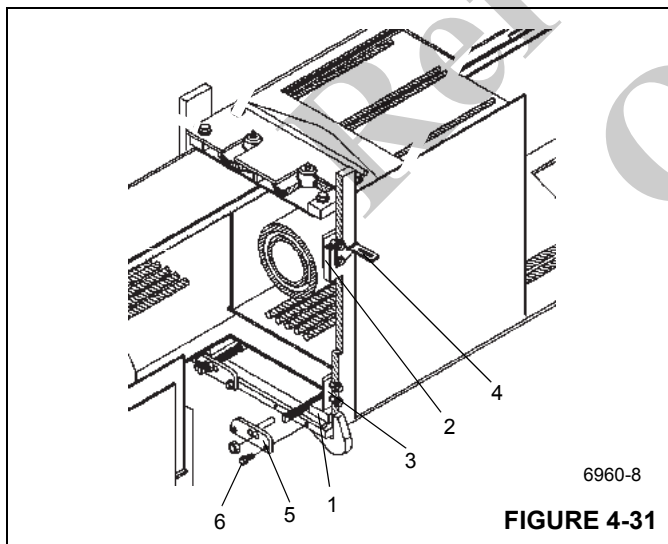

FIGURE 4-31
10. Lift up on the front of the assembly and install the bottom front wear pads (1) in the pockets of the inner mid (Figure 4-31).
11. Install inner mid front top (2) and bottom (3) side wear pads with two screws each. On top left side attach mounting angle (4) with bottom wear pad screw (Figure 4-31).
12. Attach fly retract cable anchor plates (5) to front of inner mid with two bolts each (6) (Figure 4-31).